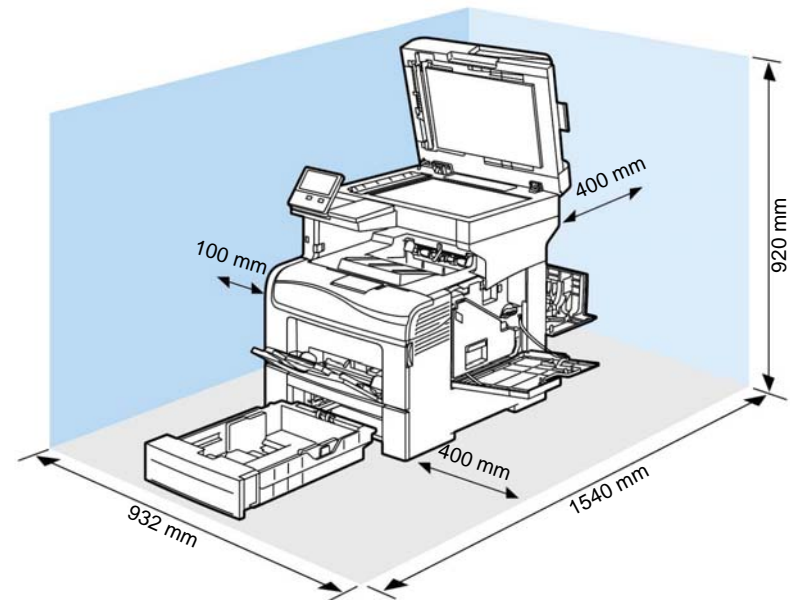

Figure 3 Minimum clearance
1. In order to function correctly, the device must be placed on a flat surface with the following minimum clearances shown in Figure 3 and Figure 4 with the optional 550-sheet feeder.